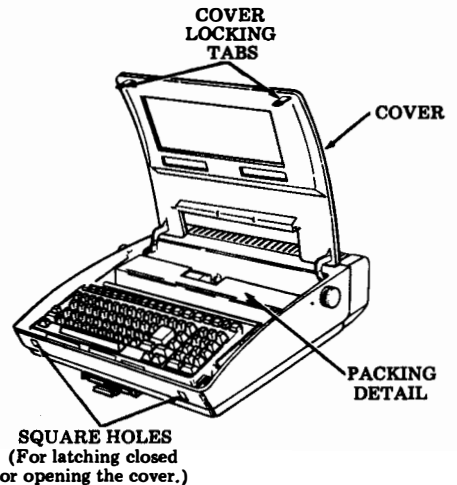

Fig. 2—Packing Detail
3.04. Unpack the carton referring to instructions on the container. Remove tape securing the cover and paper separator to the housing (Fig. 2).
3.05 Depress the cover locking tabs on the lower front of the cabinet and lift the cover. Remove the packing detail securing the print head and the ribbon in place (Fig. 2).